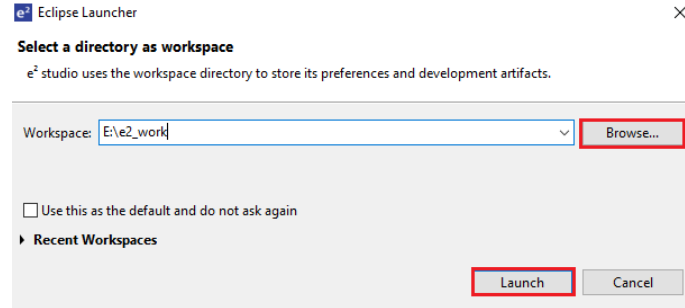

Figure 3.11 Specifying the e2studio work folder
(1) e2studio preparation tasks
Upon starting the Eclipse launcher, the screen for selection of the workspace folder is displayed; click the "Browse (B)" button and specify the folder to use for the e2studio project (in the case of Figure 3.11, e2_work). After specifying the folder, click the "Launch (L)" button to start e2studio.